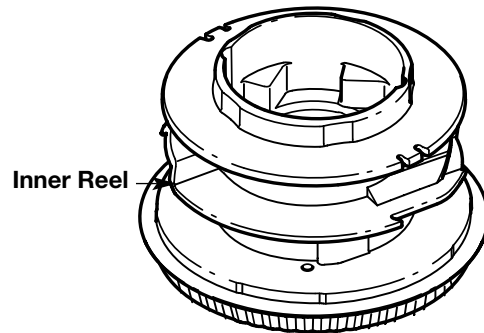

Fig. 24
4. Remove any existing line from the inner reel before cleaning. Remove any debris or grass from the knob, spring, inner reel and foam seal. Wash the inner reel with warm soapy water (Fig. 24).